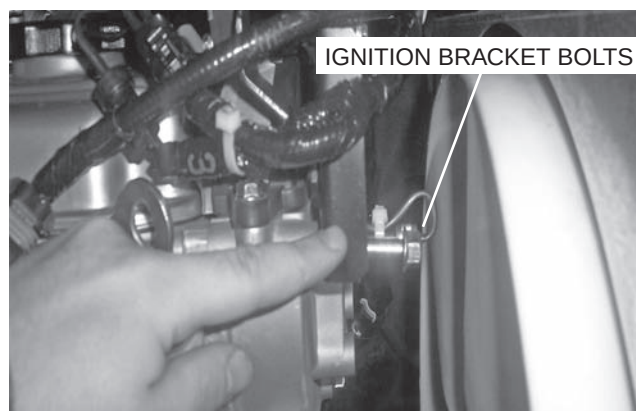

Figure 7
6. Remove the two ignition bracket bolts (Figure 7)